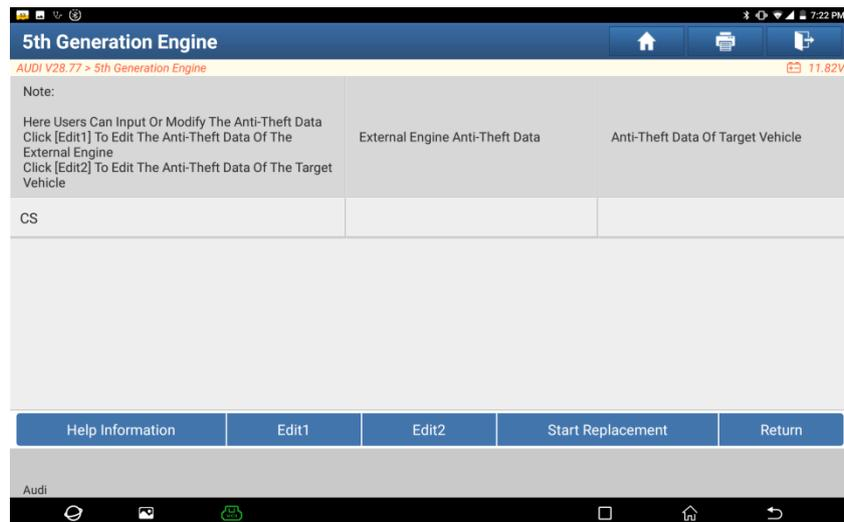

Figure 9
3.2.1.8 Click [OK], as shown in Figure 9.